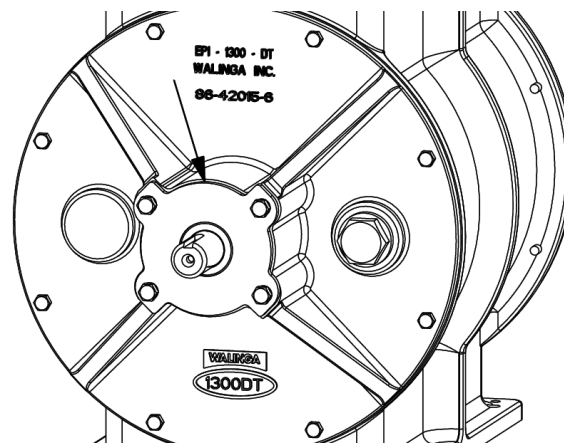

Figure 7-5: Removal of seal plate
22. Install the seal plate, reference **Figure 7-5**, and tighten the seal plate fasteners to the required torque as specified in **Section 8: Specifications**.
3. Remove the fasteners securing the seal plate in place and remove the seal plate, reference **Figure 7-5**.